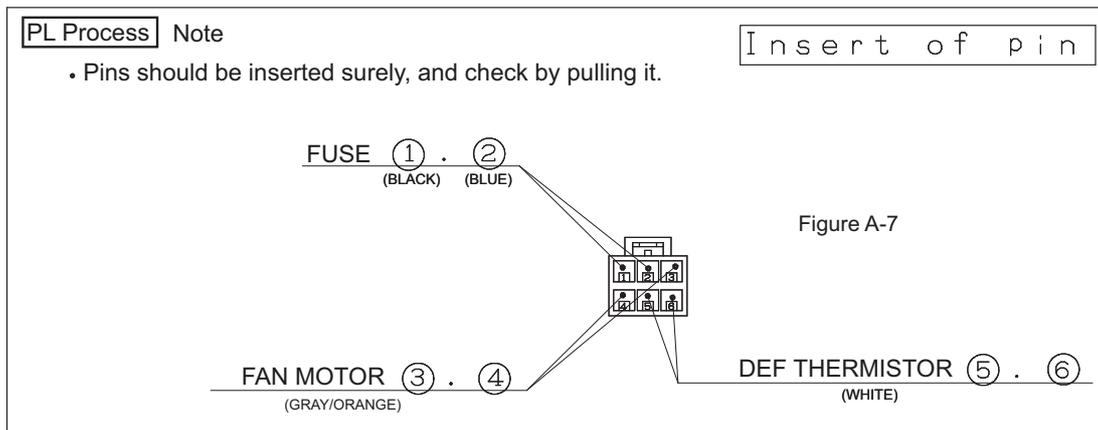

Figure A-7
6. Insert the terminal of Def-thermistor to terminal No.5/No.6 and then insert the Fuse ass'y to the terminals No.1/No.2. on the 6P connector of Lead EV-cover (Figure A-7).
6. Insert the terminal of Def-thermistor to terminal no.5/No.6 and then insert the Fuse ass'y to the terminals No.1/No.2. on the 6P connector of Lead EV-cover (Figure A-7).